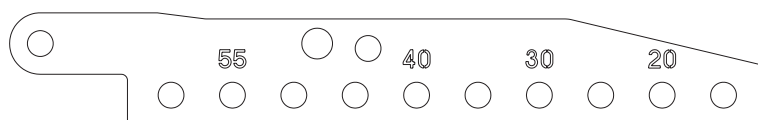

Fig. 14.3
3. Move the panels one after the other until the new column cross section has been set. The tape measure stamped into the perforated profile (Fig. 14.3) shows the column cross section and makes measuring superfluous.